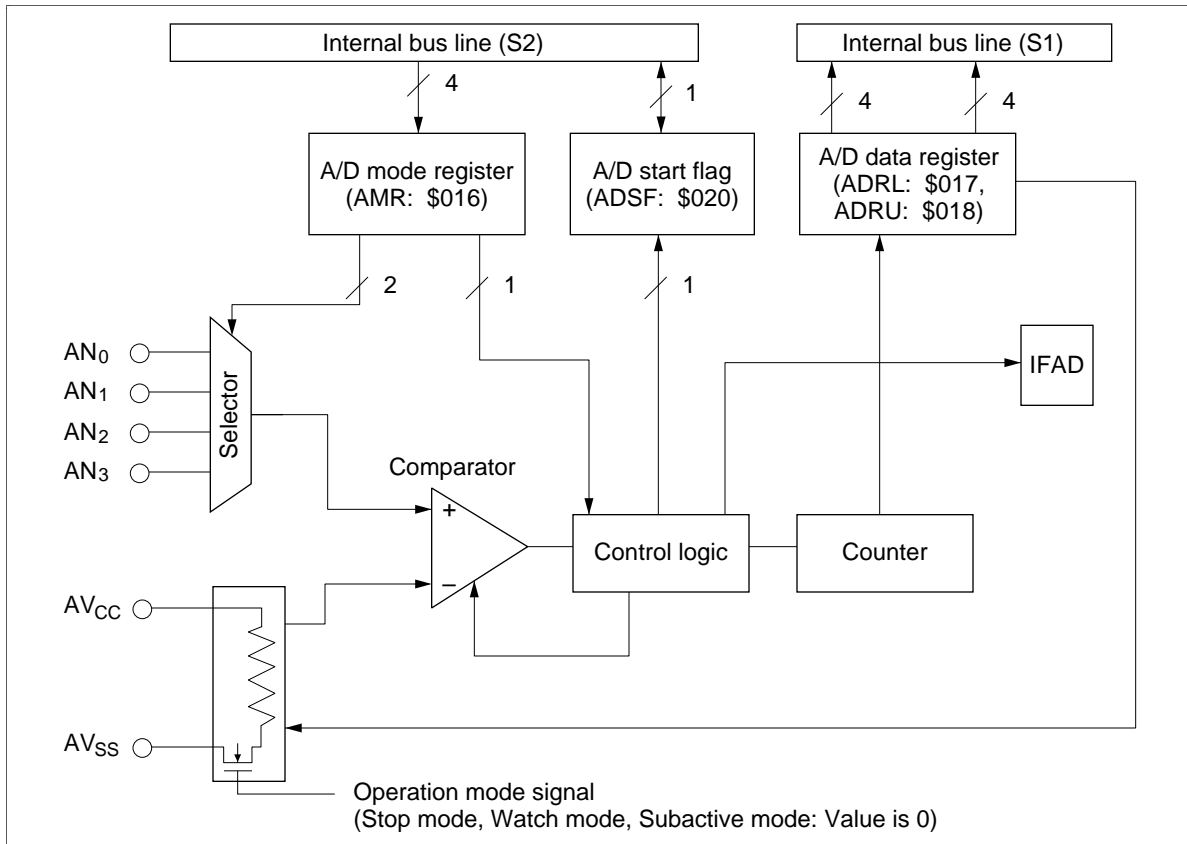

**Figure 33 Transmit Clock Error Detection**
**Transmit Clock Error Detection:** The serial interface will malfunction if a spurious pulse caused by external noise conflicts with a normal transmit clock during transmission. A transmit clock error of this type can be detected as shown in figure 33.